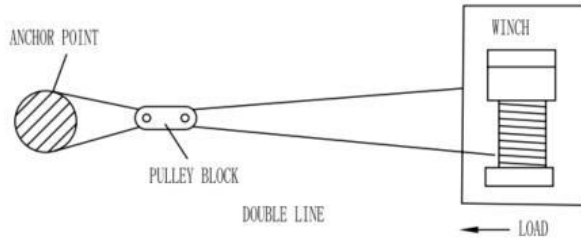

Fig. 7
2. A method of rigging used to obtain a mechanical advantage. The use of a pulley block as a traveling block will almost double the winch pulling capacity. (See fig. 7)